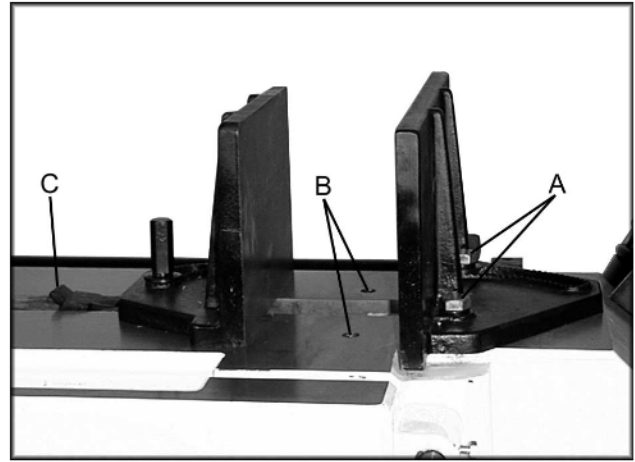

Fig. 5
2. If adjustment is necessary, loosen bolts (A, Fig. 5) holding the vise and adjust vise so square lines up properly. Tighten bolts.
1. Move the vise into the second set of threaded holes (B, Fig. 5) by removing hex cap bolts (A, Fig. 5).
1. Pull up on the rack block (C, Fig. 5).